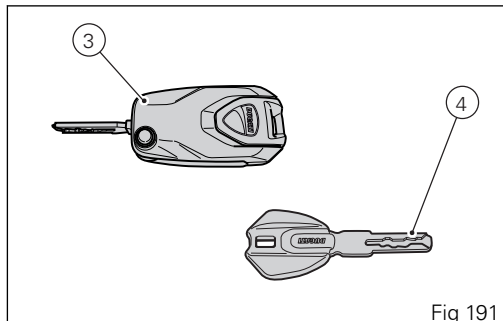

Fig 191
Key-On can be performed by pressing button (6) on the handlebar and with the presence of the active key (3, Fig 191).
Key-Off can be performed by pressing the button (6) on the handlebar. It can also be performed without the key (3, Fig 191) only if motorcycle speed is equal to zero.
Key-On can be performed by pressing button (7) (or rotating knob (7) clockwise in the US version) on the Hands free lock (1, Fig 184) and with the presence of active key (3, Fig 191).
Key-Off can be performed by pressing button (7) (or rotating knob (7) counterclockwise in the US version) on the Hands free lock (1, Fig 184) even without key (3, Fig 191).
Key-On can be performed by pressing the gray button (6) on the handlebar and with the presence of the passive key (4, Fig 191).
Key-Off can be performed by pressing the gray button (6) on the handlebar. It can also be performed without the key (4, Fig 191) only if motorcycle speed is equal to zero.
Key-On can be performed by pressing button (7) (or rotating knob (7) clockwise in the US version) on the Hands free lock and with the presence of passive key (4, Fig 191).
Key-Off can be performed by pressing button (7) (or rotating knob (7) counterclockwise in the US version) on the Hands free lock (1, Fig 184) even without key (4, Fig 191).
Key-On can be performed by pressing button (7) (or rotating knob (7) clockwise in the US version) on the Hands free lock (1, Fig 184) without the presence of keys (3, Fig 191) and (4, Fig 191) and entering the pin code on the instrument panel.